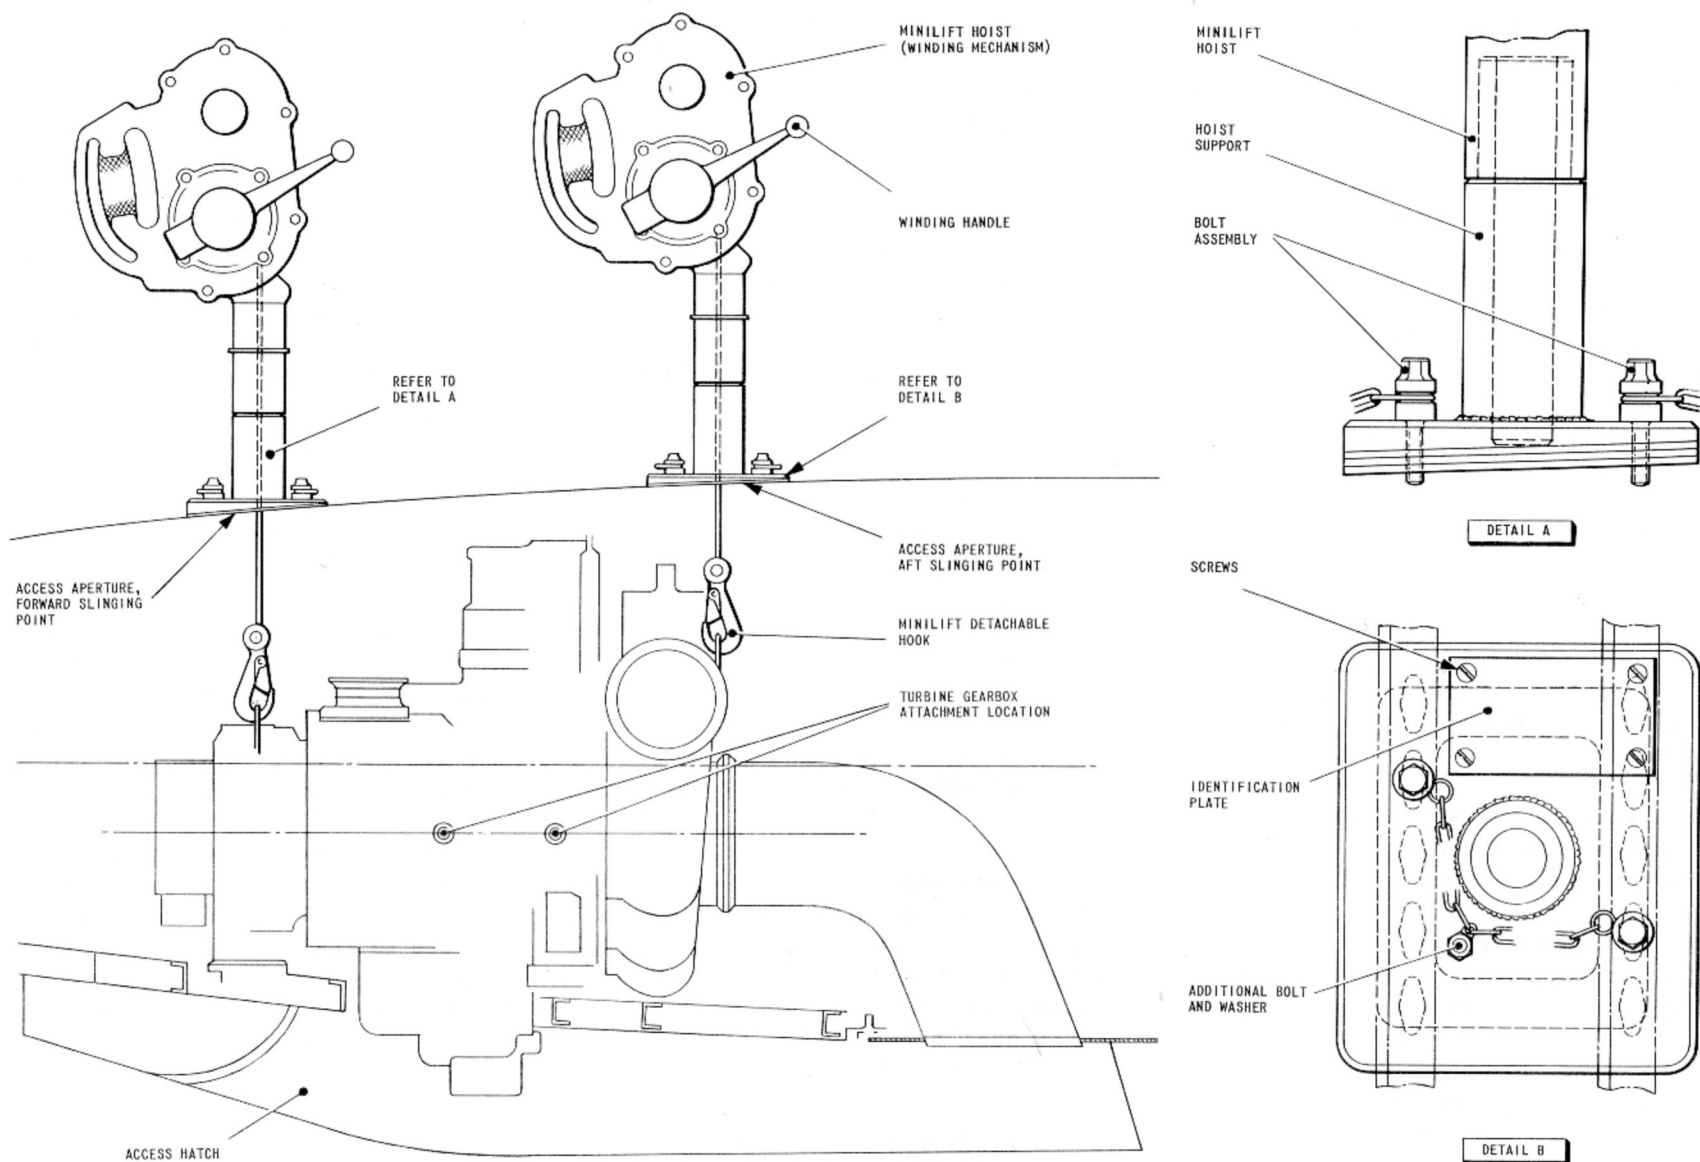

FIG. 11. TURBINE - GEARED ALTERNATOR - REMOVAL AND ASSEMBLY (3)
(5) Attach the two hoist supports (*fig. 11, detail A*) to the access panel surrounds and secure the hoist supports with the bolt assemblies and the additional bolt and washer provided (*fig. 11, detail B*).
(6) Attach the hoist mechanisms (*fig. 11*), one to each support. Assemble the handle, lower the cables and attach the hooks to the forward and aft lifting eyes which are located on the volute casing and the alternator, respectively. Tighten the cables to support the assembly.
(7) Disconnect the electrical cables from the terminal blocks on the alternator.
(8) Disconnect the socket from the plug on the hydraulic servo unit and fit the protective cap on the plug.
(9) Remove the clamps securing the turbine air supply duct to the flow control valve.
(10) Remove the clamps securing the air exhaust duct to the turbine.
(11) Remove the clamps securing the cooling air outlet ducts to the alternator and gearbox, respectively.
(1) Remove the access hatch complete with air scoop from beneath the main plane.
(2) Remove the two access panels from the upper surface of the main plane and attach the hoist supports (*fig. 11, detail A*) to the access panel surrounds, using the bolt assemblies and the additional washer and bolt provided (*fig. 11, detail B*).
(3) Attach the hoist mechanisms (*fig. 11*), one to each support. Assemble the handle, lower the cables and attach the hooks to the two lifting eyes of the turbine-g geared alternator.